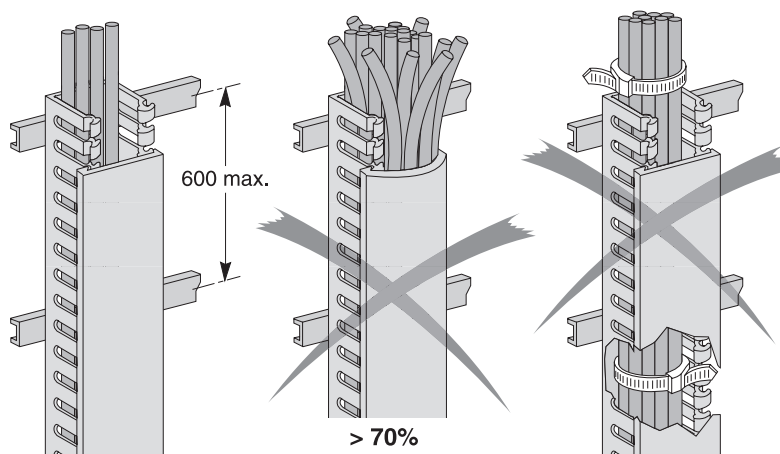

Fig. 28
- Trunking must be secured at least every 600 mm (see Fig. 28).